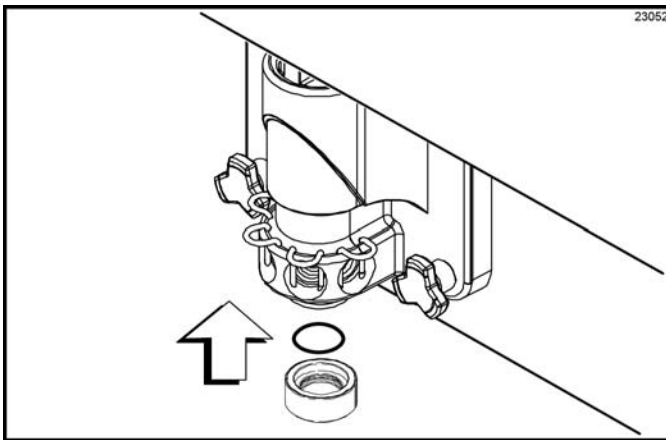

Figure 6-66
16. Place the spout cap O-ring in the spout cap. Fill the spout cap with sanitizing solution. Install the spout cap over the end of the door spout. (See Figure 6-66.)